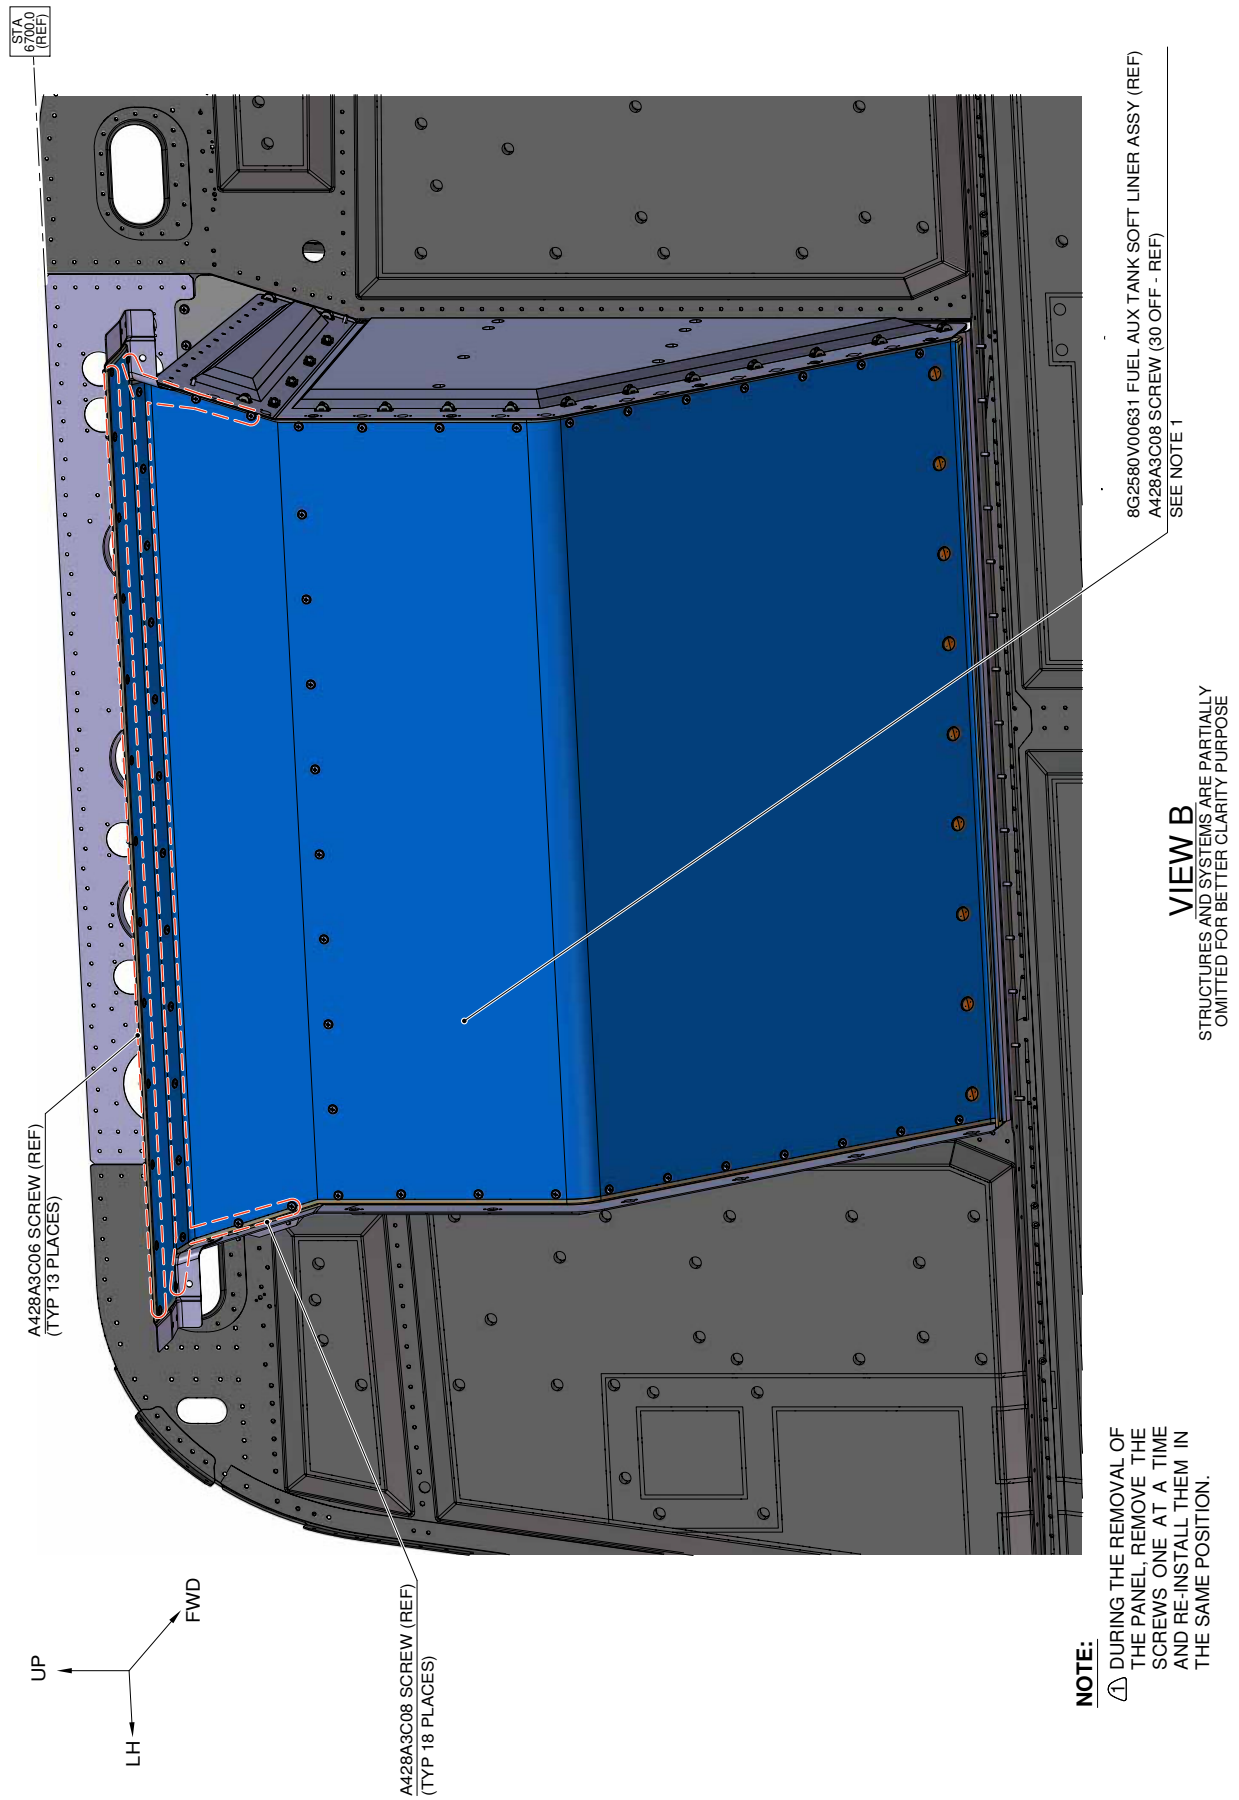

Figure 3
- 3.10 With reference to Figure 3 View B, remove the fuel auxiliary tank soft liner assy P/N 8G2580V00631 with the related hardware.